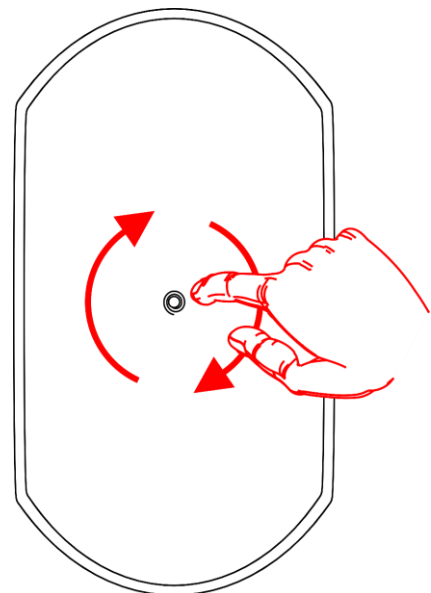

Fig. 26
- 02) On the inside of the **speaker grill (01)**, press on the spring-loaded pin and move the **rotatable logo (02)** to the correct orientation (Fig. 26).
- 04) Install the **speaker grill (01)** on the device.